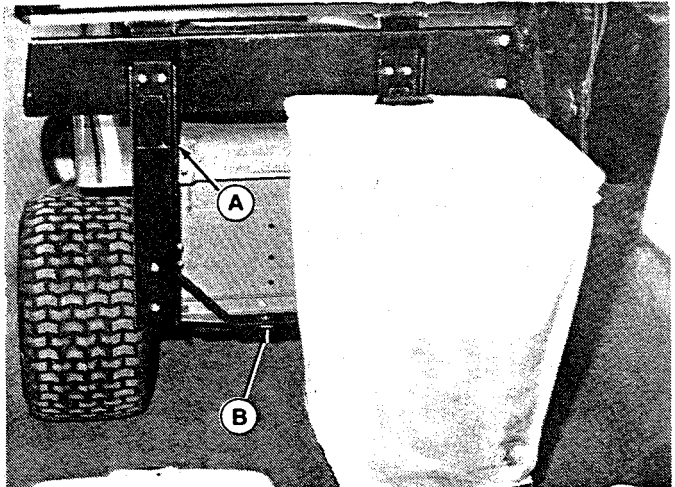

Figure 30.
3. Hook the frame (A, figure 30) onto the spacers installed in step 1. Connect to drawbar with pin and hairpin clip (B).